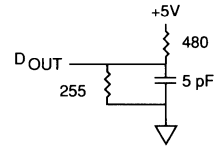

Fig. 2 OUTPUT LOAD EQUIVALENT
- tHZCE, tHZWE and tHZOE are specified with CL = 5pF as in Fig. 2. Transition is measured ± 500mV from steady state voltage.